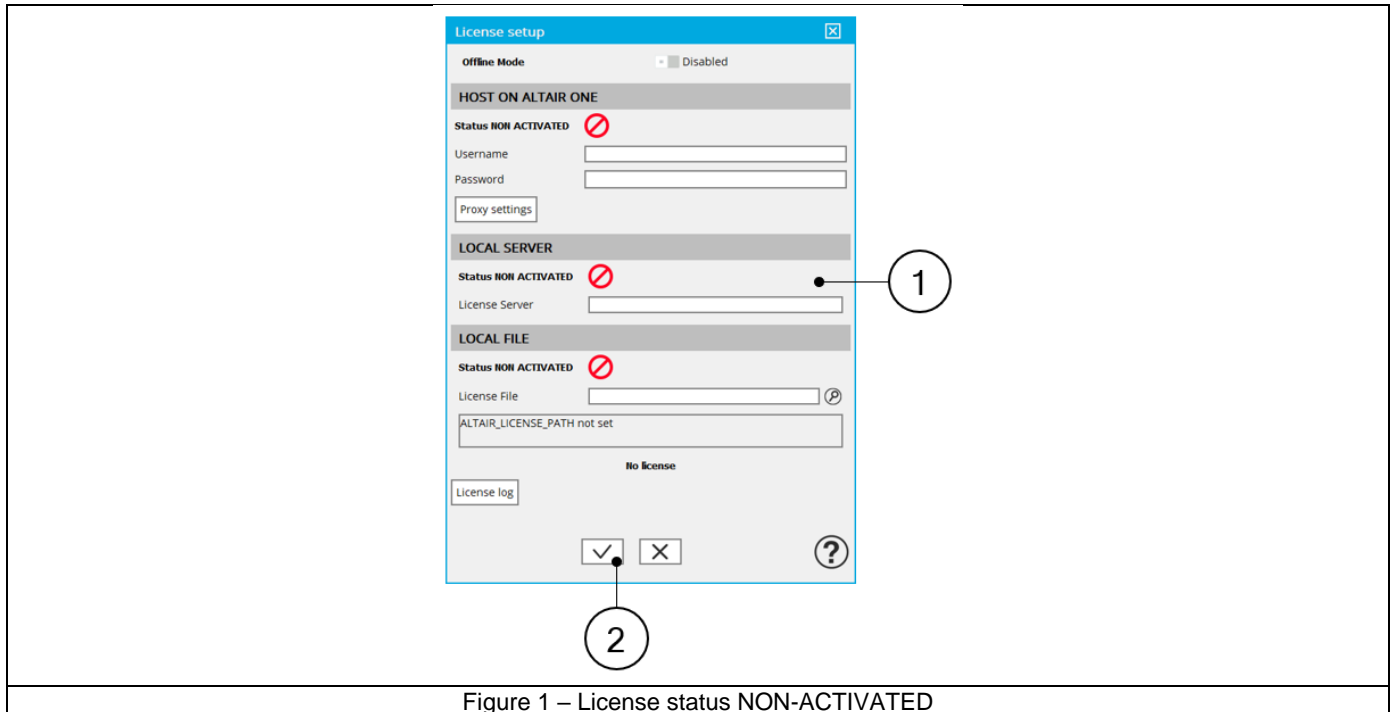

Figure 1 – License status NON-ACTIVATED
- 2) Enter the port@host information for the License Server (Mark 1 - Figure 1 – License status NON-ACTIVATED)..
- 3) Click on the apply button (Mark 2 - Figure 1 – License status NON-ACTIVATED). The status changes to "ACTIVATED" when the license is validated, or you will receive an error message if unsuccessful.